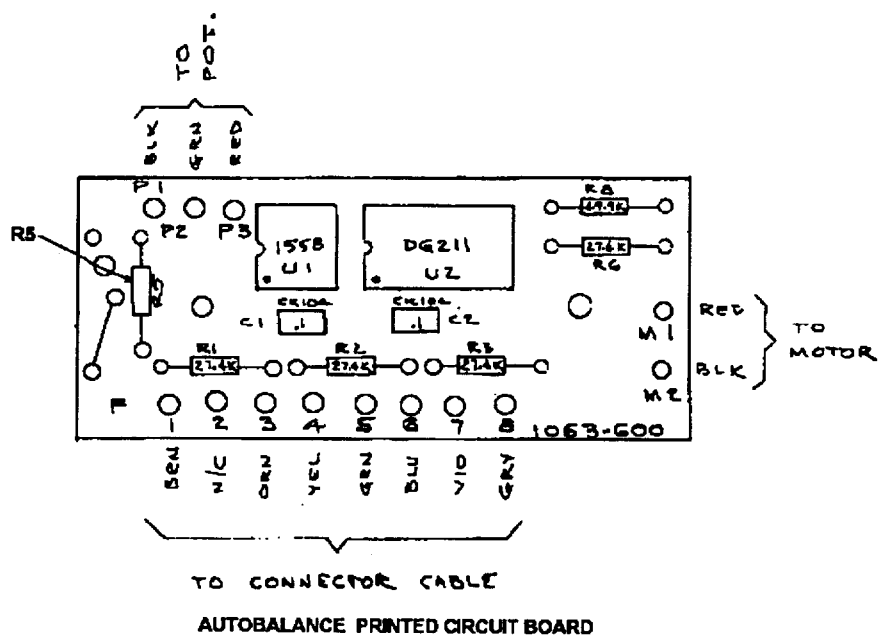

FIGURE 1
A. On the next trip to each site, inspect the R5 resistor for its value. Reference the autobalance printed circuit Figure 1 for location of R5 resistor.